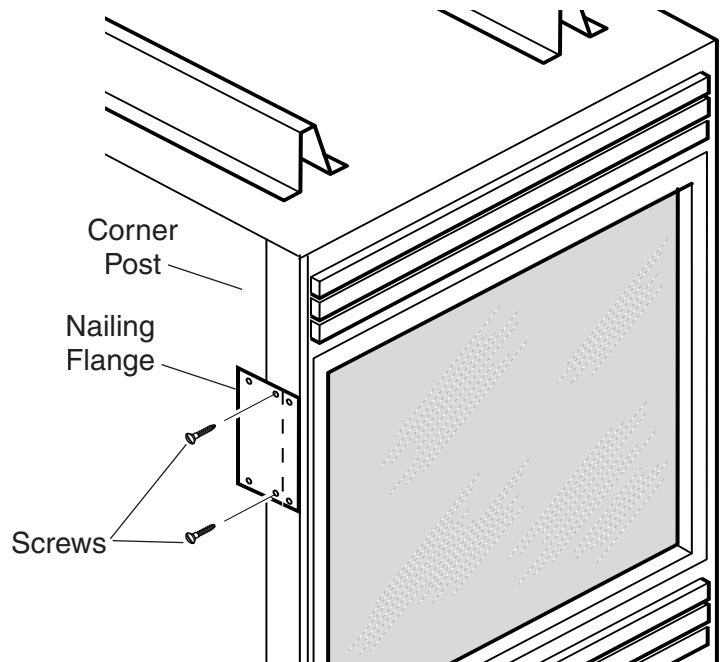
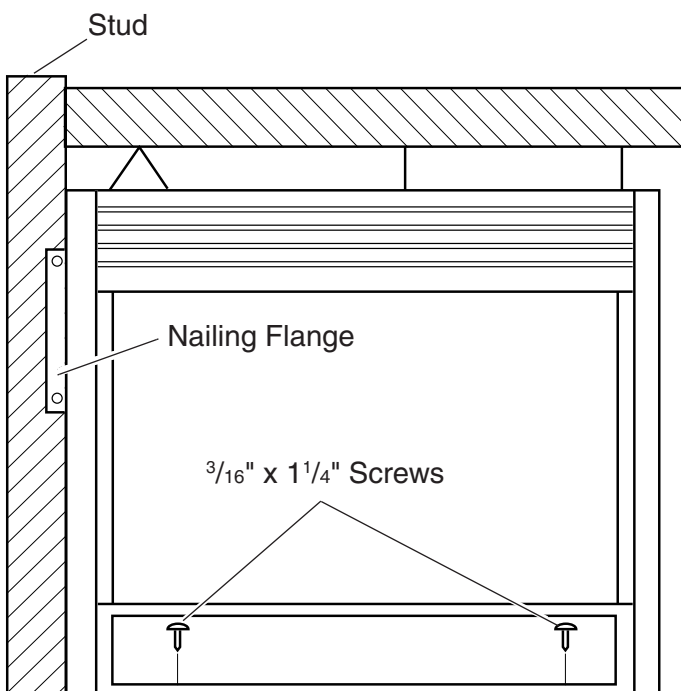

Figure 19 - Location of Unsecured Pre-Attached Nailing Flange (Left Corner Unit [GLCF36]) Shown
Figure 20 - Location of Nailing Flanges and Floor Screws
1. Locate pre-attached nailing flanges as shown in *Figure 19*. DO NOT REMOVE PRE-ATTACHED NAILING FLANGES.
2. Secure nailing flanges to corner posts using two (2) self-taping screws. See *Figure 19*.
4. Bend out four (4) nailing flanges to 90°.
6. Attach nailing flanges to studs. See *Figure 20*.
8. Anchor firebox to floor with four $\frac{3}{16}$ " x $1\frac{1}{4}$ " screws through holes located on the bottom of the firebox. See *Figure 20*.